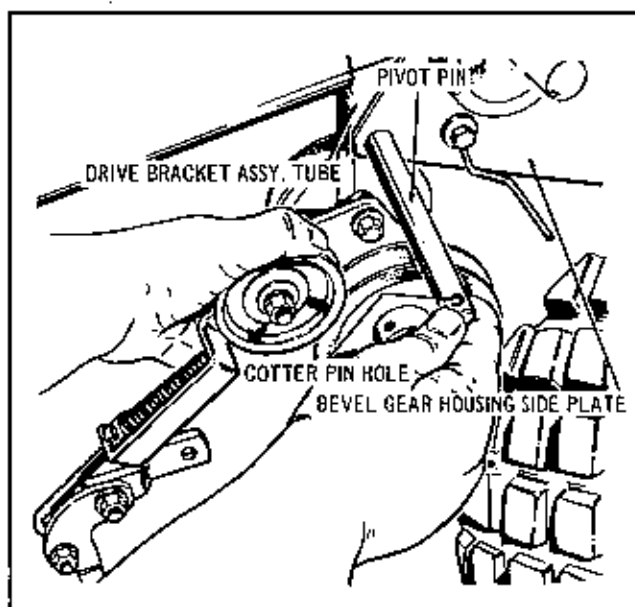

FIGURE 2
2. Holding the Power Take-Off Assembly in left hand as shown in Figure 2, position the tube of the Drive Bracket Assembly between the Bevel Gear Housing Side Plates. Align the holes in Side Plates with the hole in Drive Bracket Assembly Tube and insert Pivot Pin through holes in Side Plates and Drive Bracket Assembly Tube.